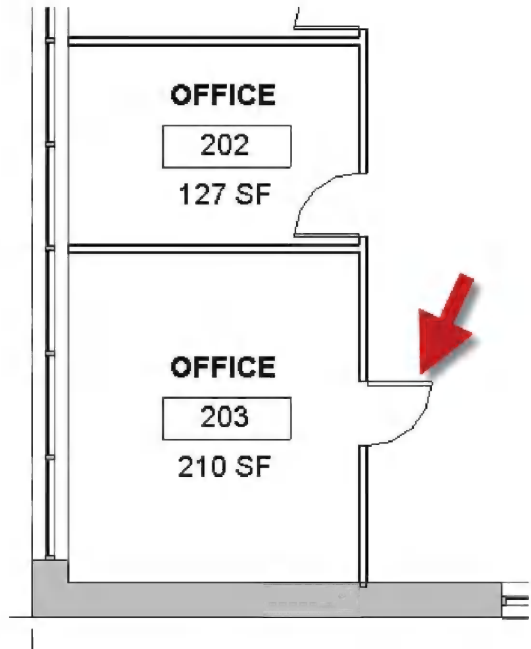

FIGURE 16-4.16 User B moved door
33. **USER B:** Try moving the door to the center of the room (Figure 16-4.16).